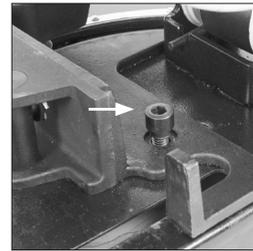

Fig. 6b
- Loosen RH socket headed screw. (Using the supplied hex key). **(Fig. 6b)**